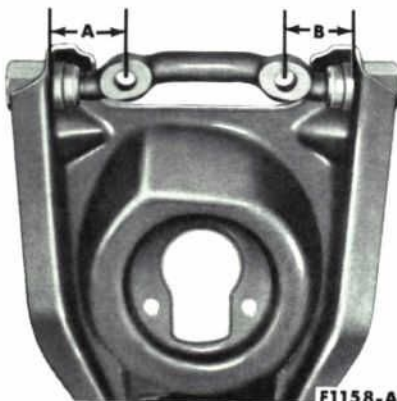

FIG. 81 — Centering Shaft in Arm
3. Position the shaft in the arm, apply grease to the new bushings, and install the bushings loosely on the shaft and arm. Turn the bushings so that the shaft is exactly centered in the arm. The shaft will be properly centered when dimensions A and B (Fig. 81) are equal.